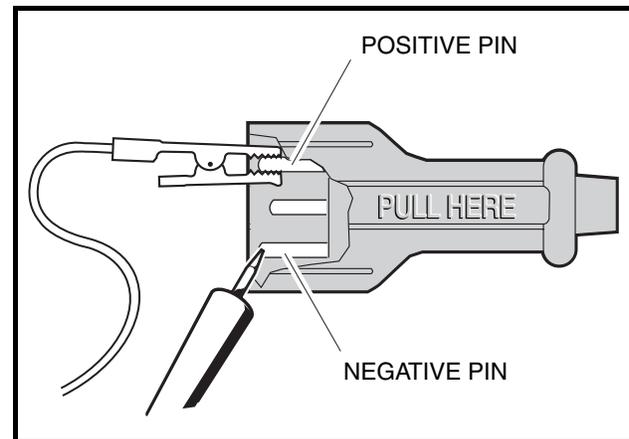

Figure 3-16 DC Plug Test – Probes Reversed
3. Reverse the test probes and check the DC plug again (**Figure 3-16, Page 3-18**). The circuit should show continuity in only one direction.